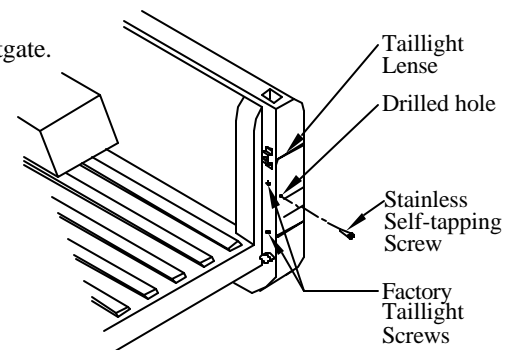

Figure 4 : Taillight modification detail.
A) Remove the (2) factory taillight screws (**Figure 4**).
B) Remove taillight lens (**Figure 4**).
Step 2: Carefully **Drill** a 9/64" hole through each taillight lens and internal sheet metal (**Figure 4**).
Step 3: Carefully **Drill** a 3/16" hole through each taillight **lens only** , for screw clearance (**Figure 4**).